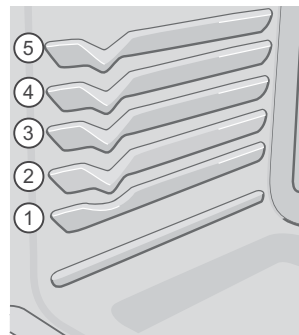

Figure 21: Rack positions
- For best results when baking cakes using two oven racks, place racks in positions 2 and 4 (See Figure 21).